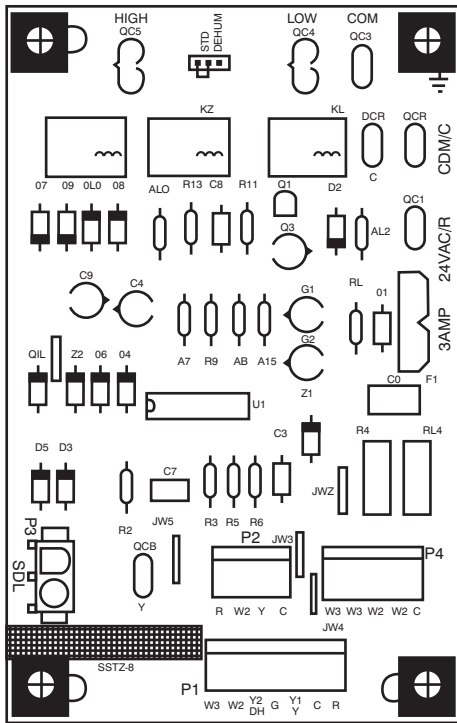

Fig. 11 - Interface Fan Board (IFB)
The cooling speed is marked "LOW" on the interface fan board (IFB) (See Fig. 11) . The factory-shipped settings are noted in Table 4. There are 4 additional speed tap wires available for use in either electric heating or cooling (For color coding on the indoor fan motor leads, see Table 3). The additional 4 speed tap wires are
shipped loose with vinyl caps and are located in the control box, near the interface fan board (IFB) (See Fig. 11).
2. Remove the current speed tap wire from the "LOW" terminal on the interface fan board (IFB) (See Fig. 11) and place vinyl cap over the connector on the wire.
1. Using Fig. 11, move the two pin DEHUM jumper from the "STD" position to the "DEHUM" position.
2. Remove fan speed tap wire from the "LOW" terminal on the interface fan board (IFB) (See Fig. 11).
1. Using Fig. 11, move the two pin DEHUM jumper from the “STD” position to the “DEHUM” position.
When the DEHUM feature is not used, the continuous fan speed will be the same as cooling fan speed. When the DEHUM feature is used, the continuous fan will operate on IFB “LOW” speed when the DH control lead is not energized, or IFB “HIGH” speed when the DH lead is energized (see Fig. 11).